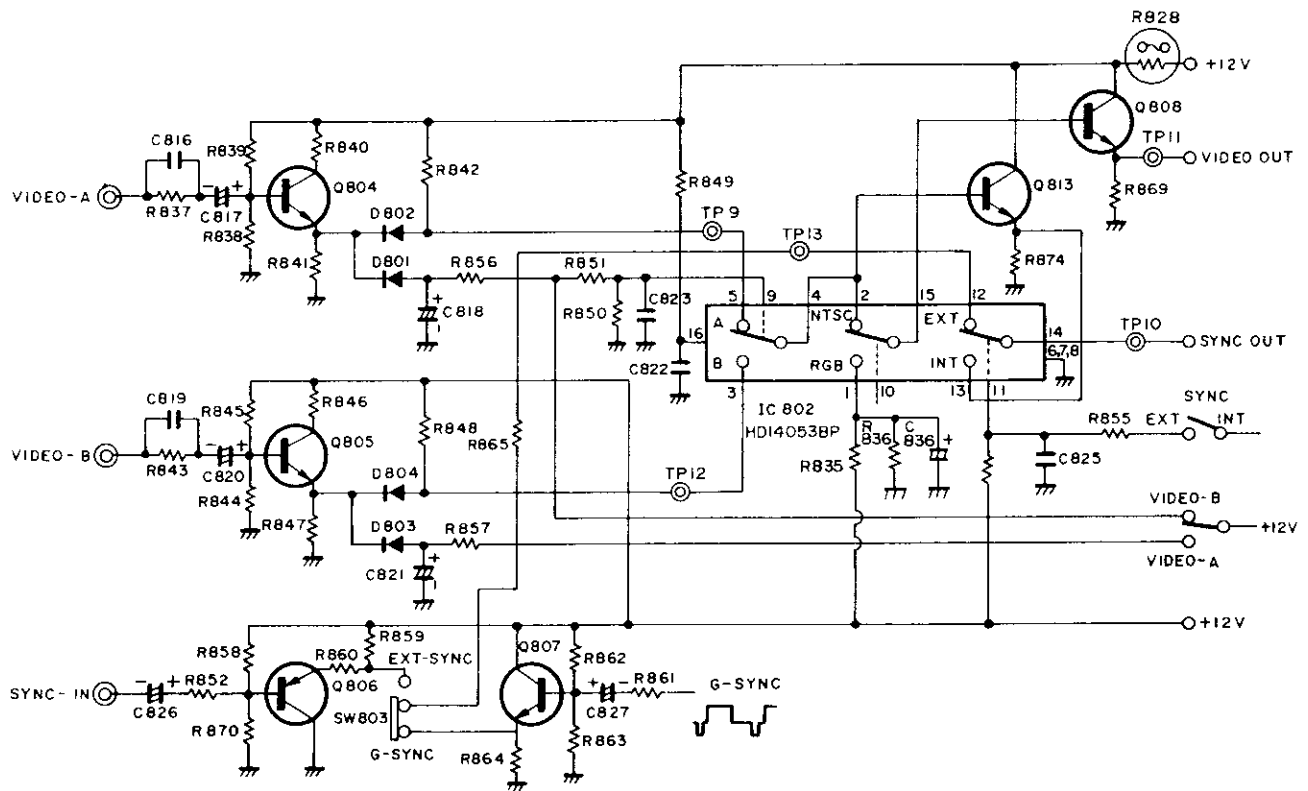
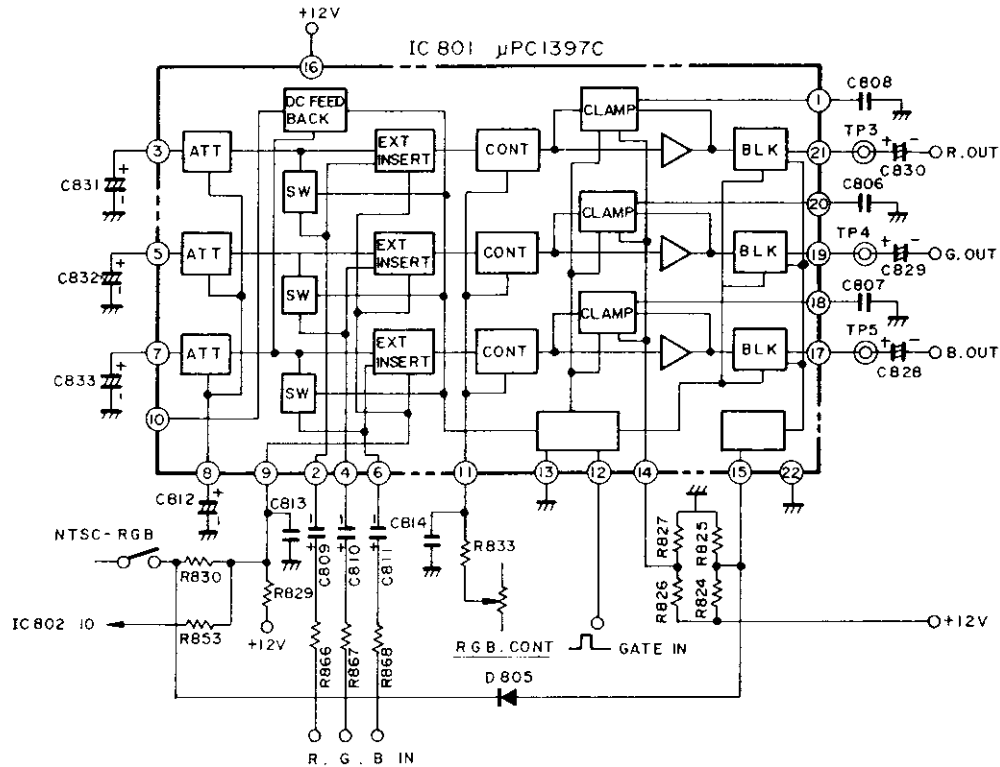

Fig. 26. VIDEO, SYNC Select Circuit
Fig. 27. Video Input NTSC-RGB Select Circuit
2. Video Input A-B Select Circuit (Fig.26)
3. SYNC INT-EXT Select Circuit (Fig. 26)
- 1) When INT SYNC is selected with the NTSC mode, the NTSC CVBS (Chroma Video Blanking Sync) is applied to Pin ⑬ of analog switch IC802 and transferred to Pin ⑭ as SYNC out.
- 2) When EXT SYNC mode is selected the external sync signal applied to the SYNC IN connector is applied to Pin ⑫ on IC802 via Q806 and switch SW803 and transferred to IC802 Pin ⑭ SYNC OUT.
4. EXT SYNC/G.SYNC Select Circuit (Fig. 26)
- 1) The selection between NTSC video and RGB is accomplished by switch IC802 (Fig. 26) and switch IC801 (Fig. 27).
- 2) The R, G, B input signals are applied to Pins ②, ④ and ⑥ of IC801 through emitter followers. When the NTSC/RGB mode select switch is set to RGB, the R, G, B signals go through the contrast control, clamp, and a BLK circuit in IC801. The R, G, and B outputs are on Pins ②, ⑱ and ⑰ of IC801.